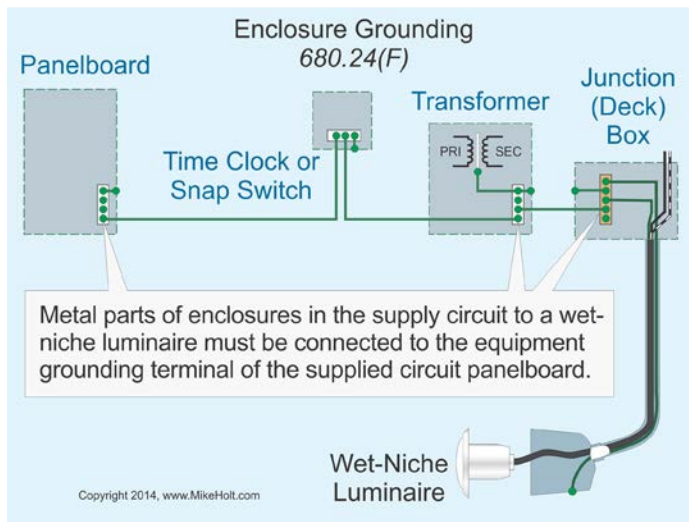

Figure 680–37
(F) Grounding. The metal parts of a junction box, transformer enclosure, or other enclosure in the supply circuit to a wet-niche luminaire must be connected to the equipment grounding terminal of the supplied circuit panelboard. **Figure 680–37**